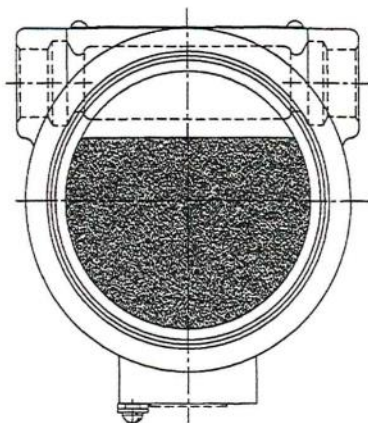

Figure 5
2. See figure 5 for defined area for pass throughs.